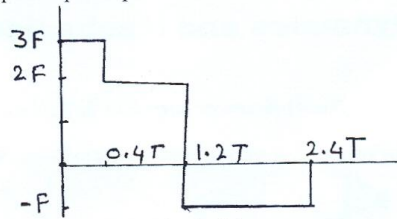

Fig.Q4(b)
b. The natural time period of a spring-mass system is T sec. It is subjected to a pulse as shown in Fig.Q4(b). Draw the phase-plane plot. (10 Marks)